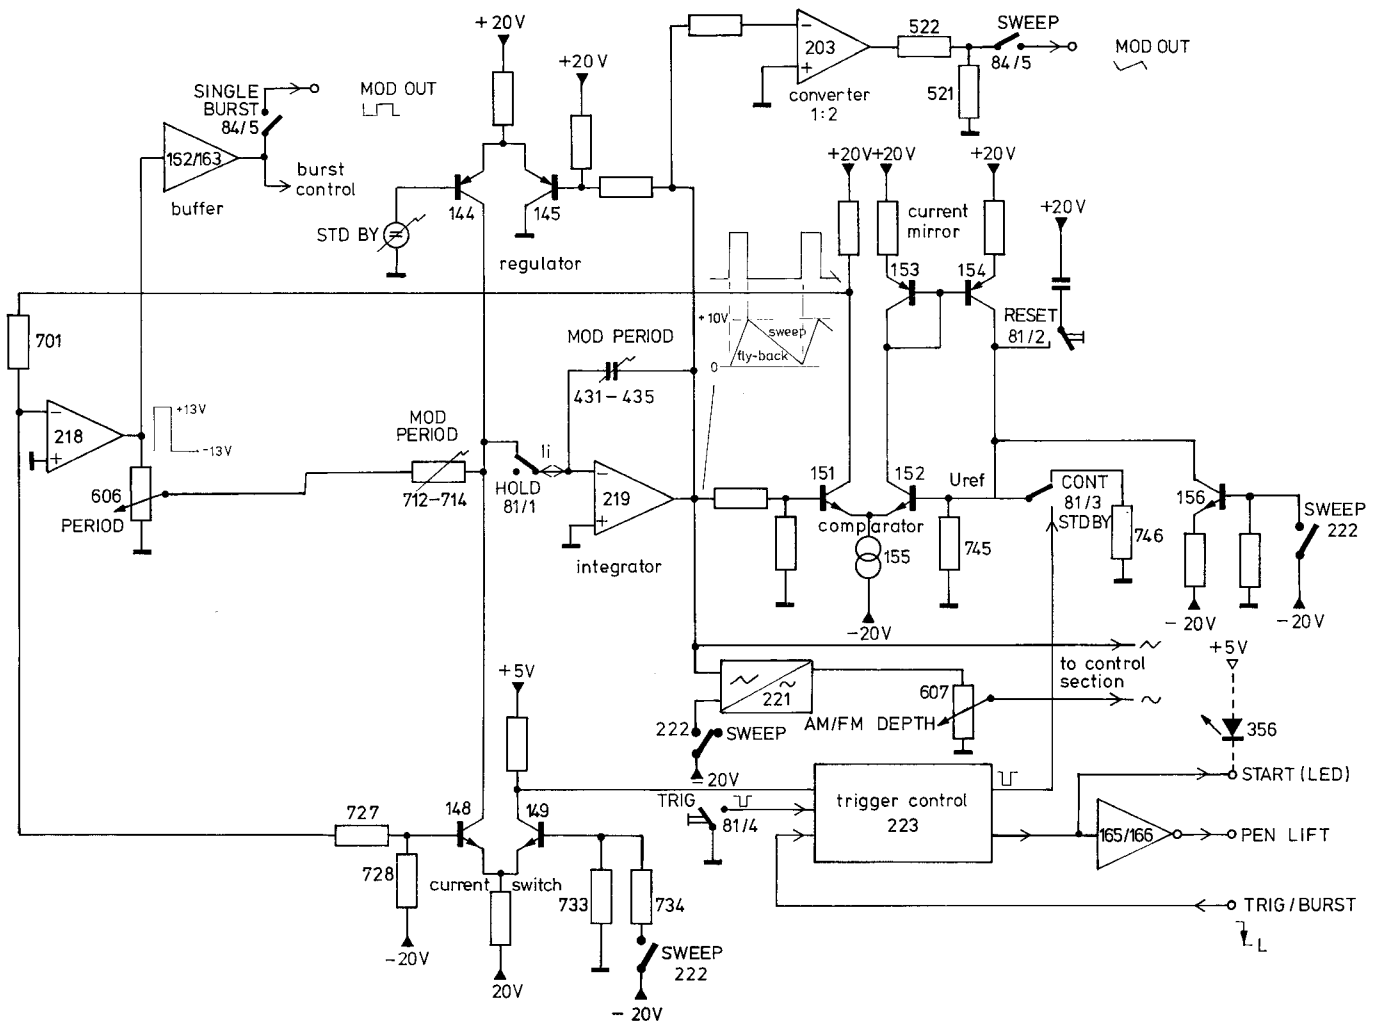

Fig. 4.1 - 1 Modulation generator
4.1.1. Modulation generator, see figs. 4.1 - 1 and 41